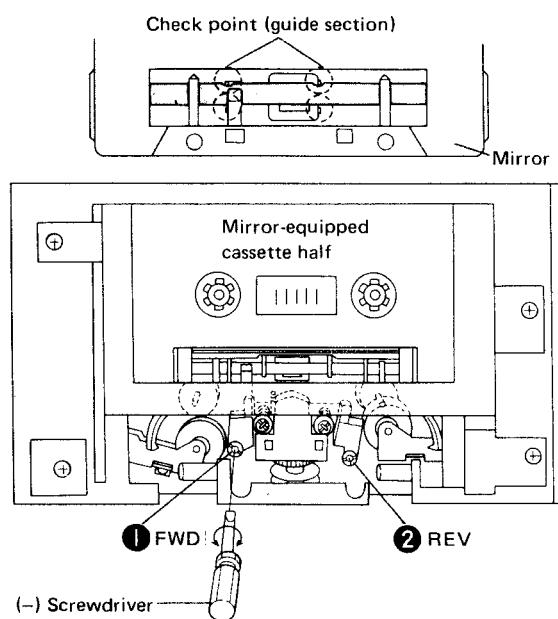

Fig. 12-4 Tape travel adjustment
- Adjust nut ① to ensure that no tape curling occurs in the guide section of the recording and erase heads as shown in Fig. 12-4.
- Adjust nut ② to ensure that no tape curling occurs in the guide section of the recording and dummy heads.